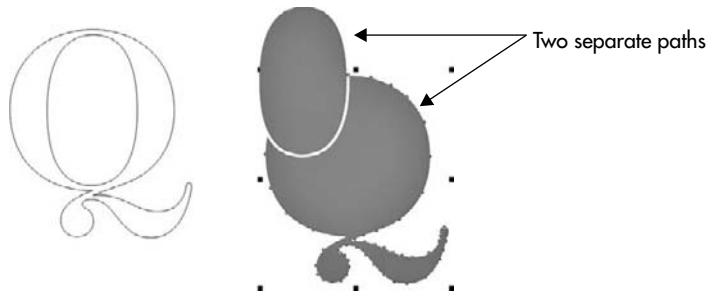

FIGURE 10-11 Break a compound path apart to work with the component objects.
4. Press CTRL+K (Arrange | Break Curve Apart). With the Pick Tool, click on one of the shapes and drag it to move it; clearly the two paths are now separate. You have just converted a compound path featuring two sub-paths into two individual objects, as shown in Figure 10-11.